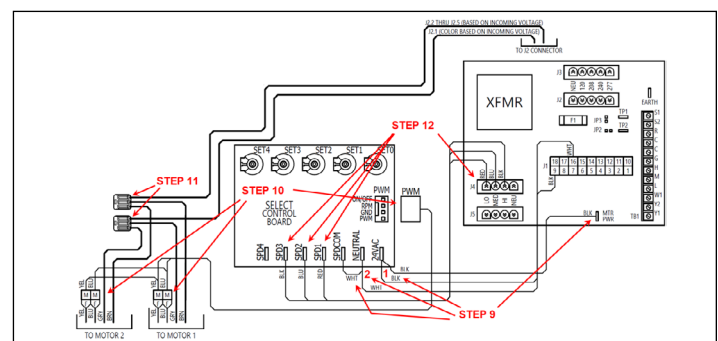

Figure 68 – Select PWM Electrical Connections
CONNECT POWER TO SELECT PWM (SEE FIGURE 68)
CONNECT MOTOR CONTROL SIGNAL TO SELECT PWM (SEE FIGURE 68)
CONNECT MOTOR POWER WIRES TO FRBii (SEE FIGURE 68)
CONNECT FAN CONTROL WIRES TO SELECT PWM (SEE FIGURE 68)
- Ensure that the new wires have been connected as specified in Figure 68.